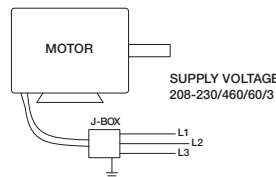

Figure 9 — Typical Wiring Diagram
**NOTE:** For 3-phase installations, fan rotation can be reversed by interchanging any two of the three electrical leads. For single phase installations follow the wiring diagram located on the motor or see Figure 9, page 5.
5. Wire motor for desired voltage or refer to Figure 9 for connection wiring diagram.